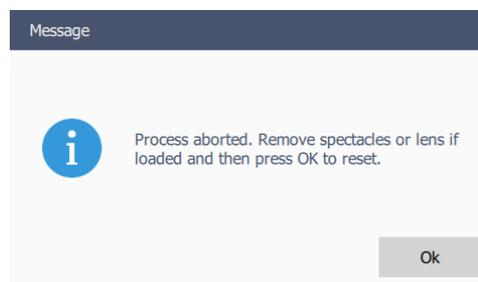

Figure 7: Pop up after emergency stop
**⚠** Please do not remove or touch spectacles and lenses until the device has completed the acquisition. If the acquisition is stopped by the user before the natural ending, follow the steps indicated on screen for a safe release (Figure 7)